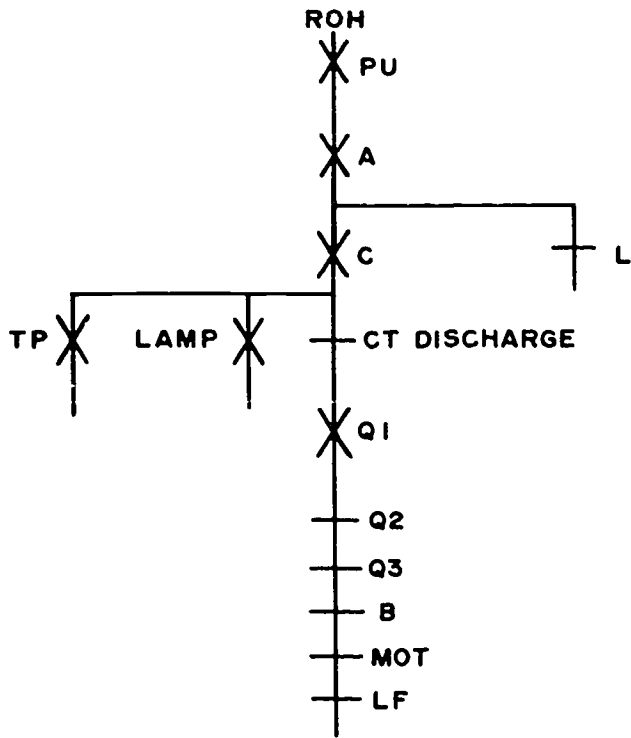

Figure 2-8. Call answer sequence diagram.
(1) The operated relay A makes the following circuit changes:
(2) The operated relay C:
(3) Relays A and C together:
- Establish the talking path from the telephone to the central office through the KTU circuit, and connect 10-volt AC to the light in the telephone for a steady busy light. Review the sequence in figure 2-8.